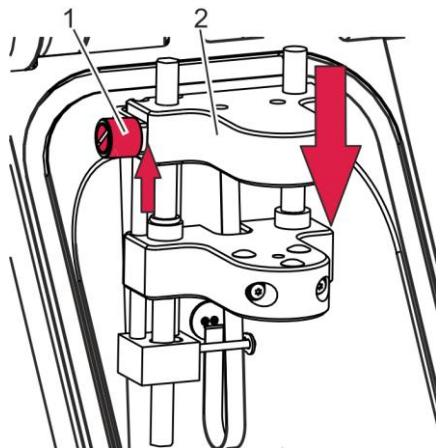

Fig. 29: Lowering the sensor
3. Lift the adjustment knob (Fig. 29/1) and lower it together with the sensor holder (Fig. 29/2) until the sensor is in contact with the watch.